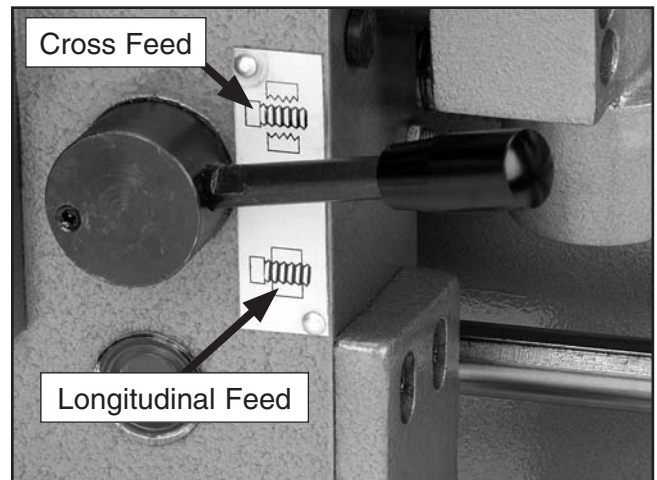

Figure 49. Cross/Longitudinal Feed Selector.
4. Push the power feed lever shown in **Figure 49** to the left and up to engage the cross feed. Pull the power feed lever to the right and down to engage the longitudinal feed.